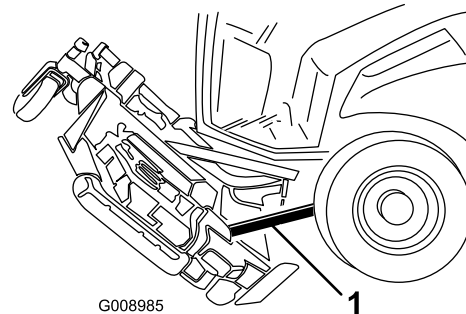

Figure 137
6. Wedge a block of wood between the rear of the deck and the machine (Figure 137).